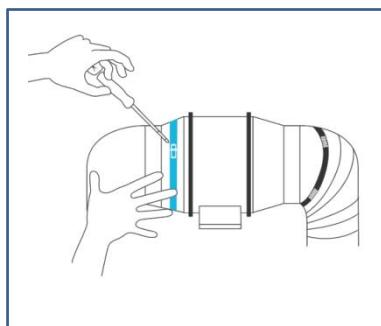

Fig.11.
- 1、If installing ducting, purchase a suitable duct and duct clamp and secure it to both ends of the fan to ensure tight sealing. Finally, tighten the air duct clamp with a screwdriver. See the (Fig.11.)